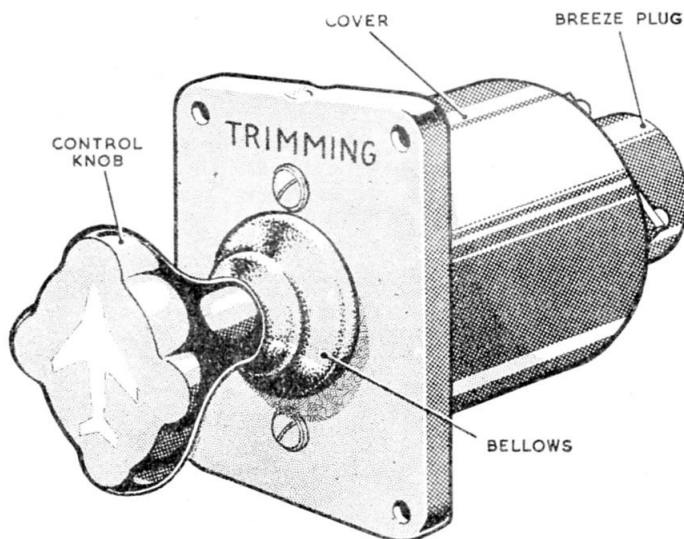

Fig. 1. Trim switch, Western, Type LS1611
2. The trim switch (fig. 1) consists of two separate switching assemblies contained inside a cover and operated by one control knob. Distance tubes are fastened to a base plate, and a top plate with a sealing ring fits over the open end of the cover and the tops of the distance tubes. The switching assemblies fit inside the cover and are secured to the distance tubes and the top plate. The control knob is fastened to a shaft which operates the switches, and a bellows between the knob and the top cover of the switch prevents the ingress of dirt.